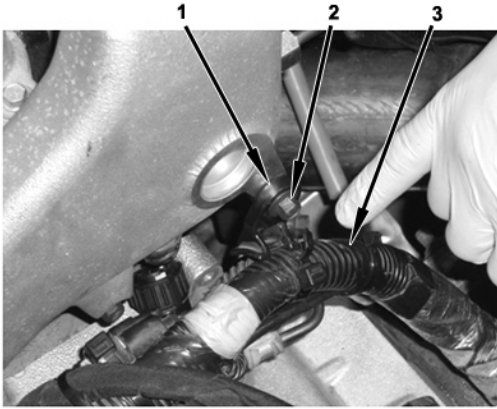

Figure 41 Engine Harness Guide
18. Install the engine harness guide (1) to M8 x 45 bolt (2) and torque to 26 lb-ft (35.2 N•m) (Figure 41).